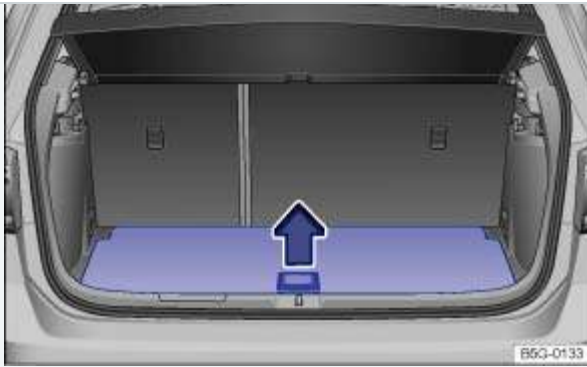
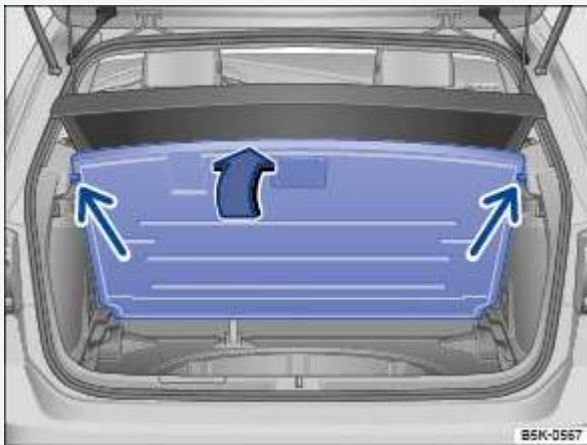

Fig. 105 In the luggage compartment: Opening the variable luggage compartment floor.
Fig. 106 In the luggage compartment: Variable luggage compartment floor folded up.
- To *open* the luggage compartment floor, lift the recessed handle ⇒ Fig. 105 and guide the floor upward until it is held in position by the stops on either side of the luggage compartment ⇒ Fig. 106 (arrows).
- Grasp the recessed handle ⇒ Fig. 105, lift the luggage compartment floor, and pull it rearward out of the guides on the sides of the luggage compartment.